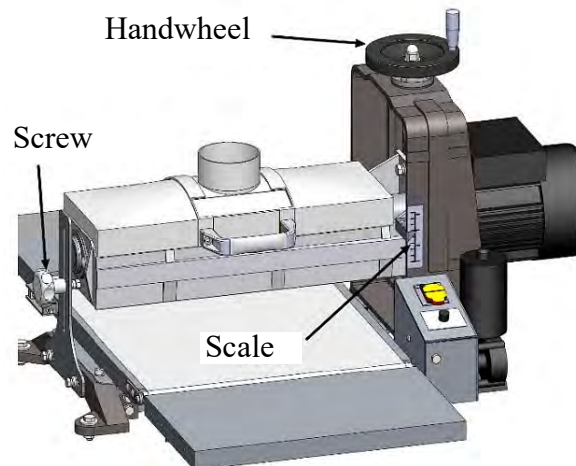

Fig. 19: Height adjustment
Step 1: Loosen the clamping screw (Fig.19).
Step 3: Once the correct cutting depth for your operation is set, retighten the clamping screw (Fig.19).